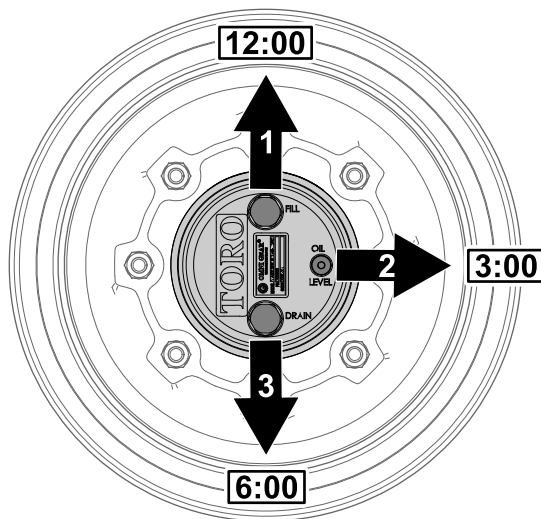

Figure 103
1. Park the machine on level surface, position the wheel so that the fill plug is at the 12 o'clock position, the check plug is at 3 o'clock position, and the drain plug is at the 6 o'clock position (Figure 103).
2. Remove the check plug at the 3 o'clock position (Figure 103).
1. Park the machine on level surface, position the wheel so that the fill plug is at the 12 o'clock position, the check plug is at 3 o'clock position, and the drain plug is at the 6 o'clock position; refer to Figure 103 in Checking the Planetary Gear-Drive Lubricant (page 64).